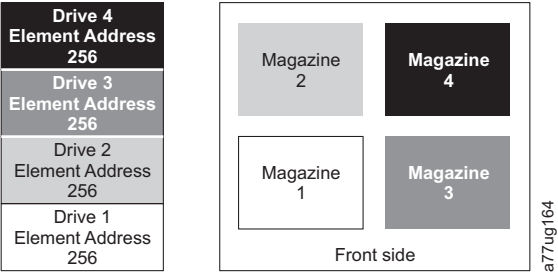

Figure 221. Configuration of a four - partition system
- Logical Library 1: Slot1 through 23 4096 (0x1000) through 4118 (0x1016) as shown in Figure 221 on page 281
When configured with four logical partitions, the Element Address assignments are as follows: DTE assignments are as shown in Figure 221.